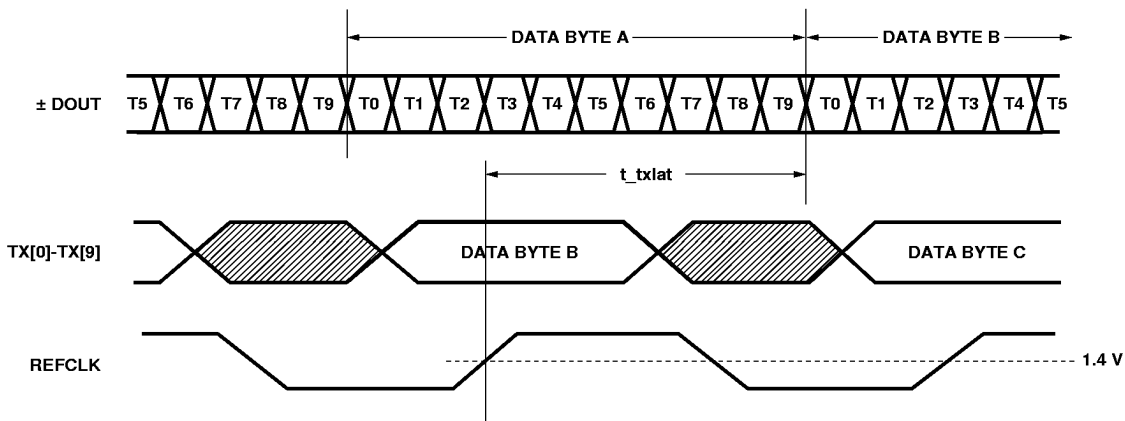

Figure 4. Transmitter Latency.
2. The transmitter latency, as shown in Figure 4, is defined as the time between the latching in of the parallel data word (as triggered by the rising edge of the transmit byte clock, REFCLK) and the transmission of the first serial bit of that parallel word (defined by the rising edge of the first bit transmitted).